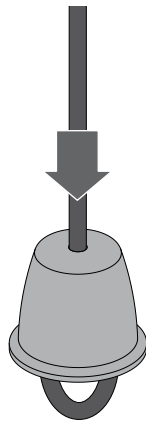

Fig. 1
- **Internal cord release (fig. 1):**